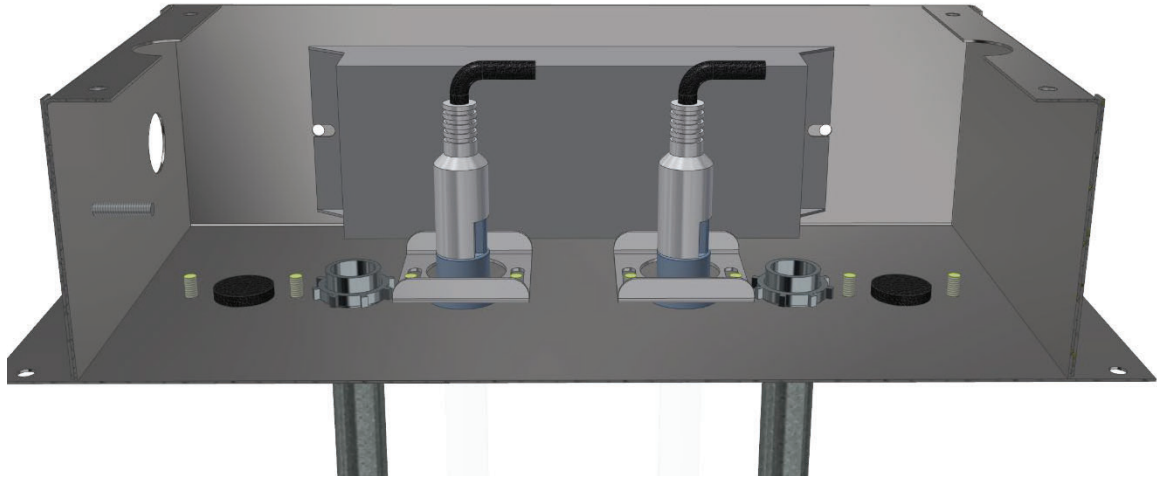

Figure 4. Lamp socket and base seating
- 10) Connect lamp socket to lamp base, making certain to seat base and socket firmly together. Repeat for additional lamps. (see Figure 4)